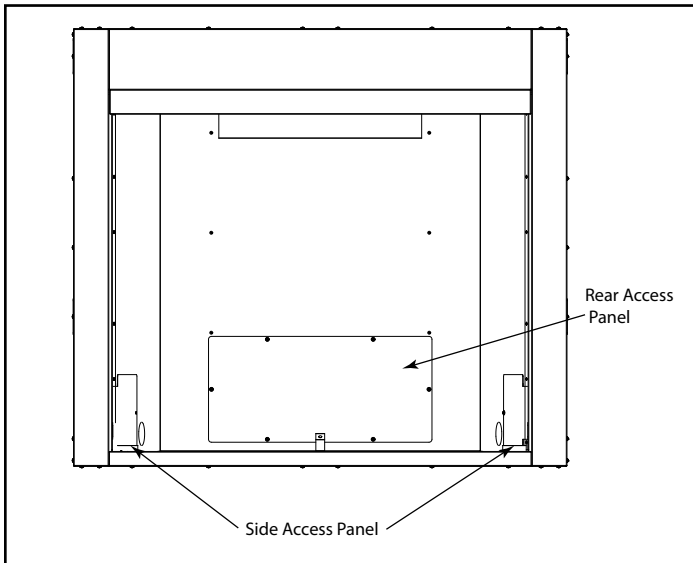

Figure 2 - Access Panels
3. Remove both side access panels and rear access panel. See Figure 2.